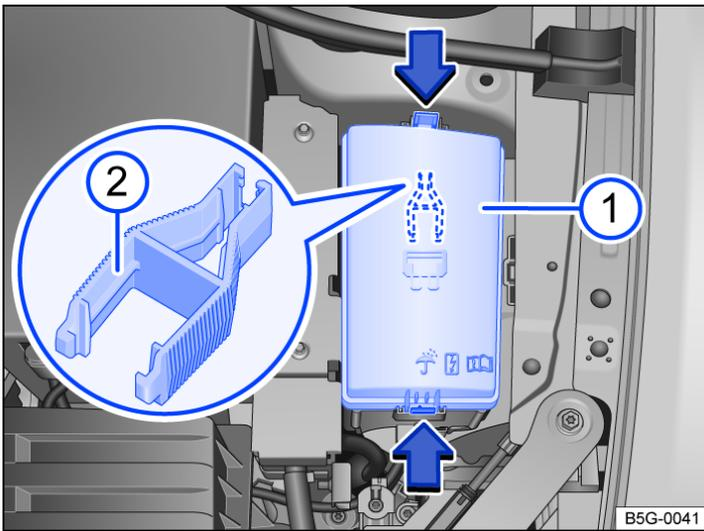

Fig. 1 In the engine compartment: cover (1) of the fuse box including plastic pliers (2).
- Press the locking button in the direction of the arrow → *Fig. 1* (arrows) in order to unlock the cover of the fuse box → *Fig. 1* (1).